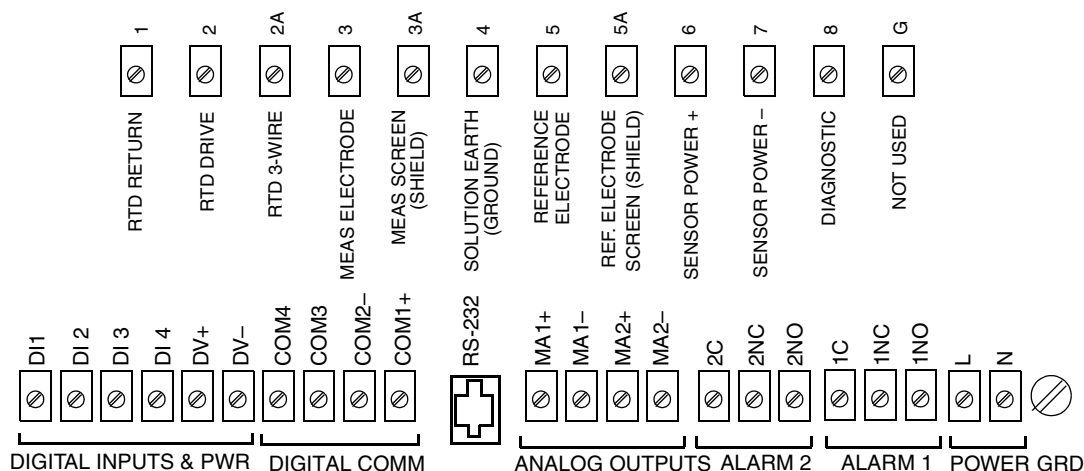

Figure 7. Wiring Connections for 875PH Analyzer
If you have a panel-mounted analyzer, make your wiring connections directly to the terminals on the rear of the housing. Terminal identifications are shown in Figure 7 and described in Table 4.
3. Bring the wires from your input (ac) power in the right opening and connect to terminals at the right end of the bottom terminal strip as shown in Figure 7 and described in Table 4.
4. Bring all other wiring (except sensor cable) in the middle opening and connect to appropriate terminals on the bottom terminal strip as shown in Figure 7 and described in Table 4.
5. Bring the sensor cable in the left opening and connect to the appropriate terminals on the top terminal strip as shown in Figure 7 and described in Table 4. If you are using manual temperature compensation and are **not** wiring a temperature measuring device, short terminals 1, 2, and 2A to minimize noise.
The ground connection on panel mounted analyzers is located as shown in Figure 7. The connection on field mounted analyzers is on a case boss just below the power connections.
If HART Communication (Option -C) is installed, connect your HART loop to the COM1(+) and COM2(-) terminals of the analyzer. See Figure 7. There must be a minimum 250 ohm load in the loop. Therefore, if you are configuring the analyzer on the bench (no loop load) with a HART communicator, you must add a 250 Ω resistor.
There are two analog (4 to 20 mA) outputs in the analyzer. Connect the Analog 1 output at the MA1+ and MA1- terminals of the analyzer. Connect the Analog 2 output at the MA2+ and MA2- terminals of the analyzer. See Figure 7. Analog 2 is **not** used when HART I/O communication is employed.